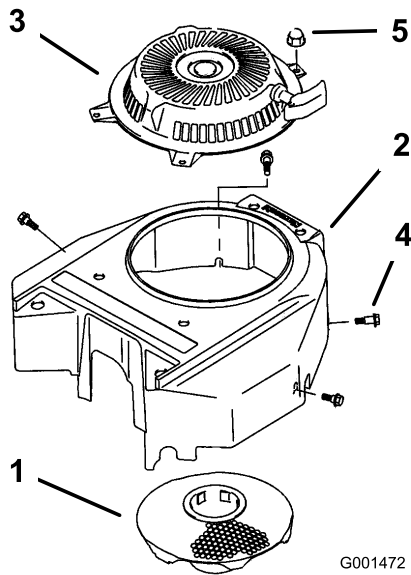

Figure 37
3. Remove the air-intake screen, recoil starter, and fan housing (Figure 37).
5. Install the air-intake screen, recoil starter, and fan housing (Figure 37).